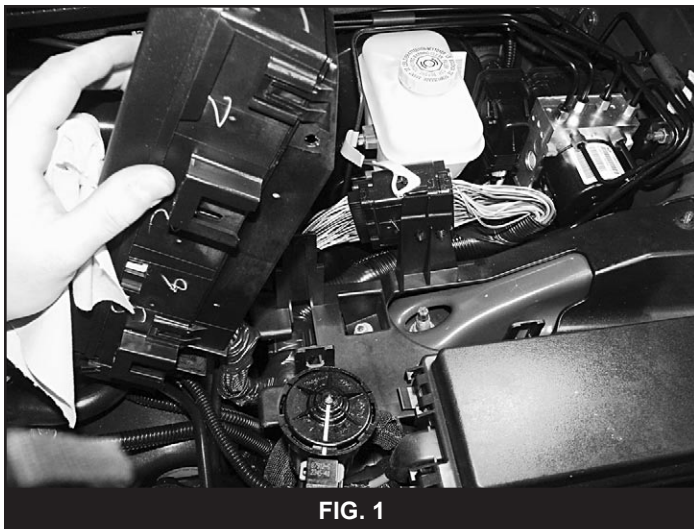

FIG. 1
3. On the driver's side of the vehicle, pull the long narrow electrical box from of the plastic retaining clips to expose one of the three mounting nuts for the power distribution center. Remove the three nuts and pull the power distribution center up to access the top strut nuts. (Fig 1)